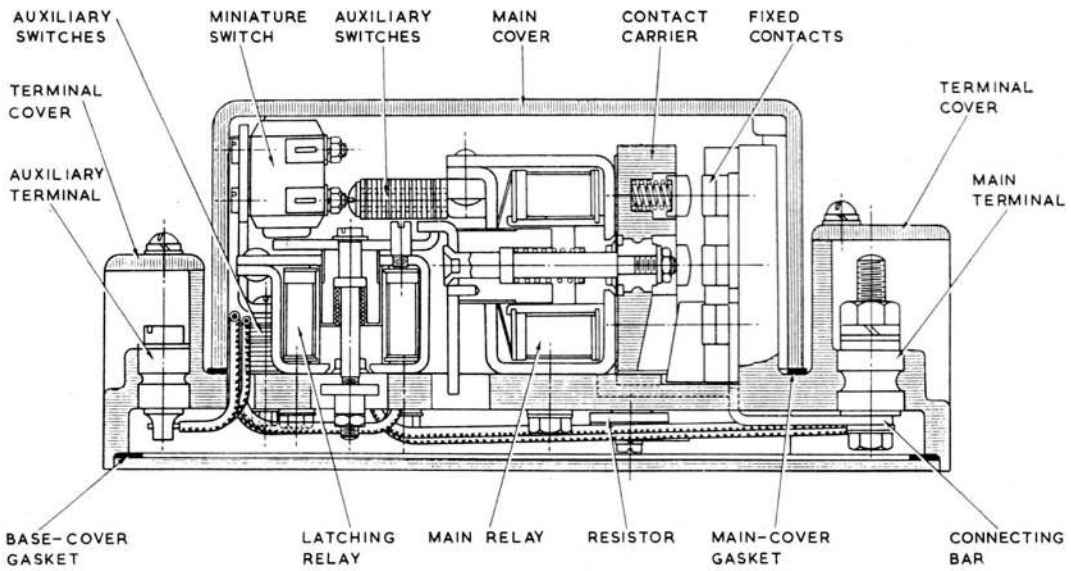
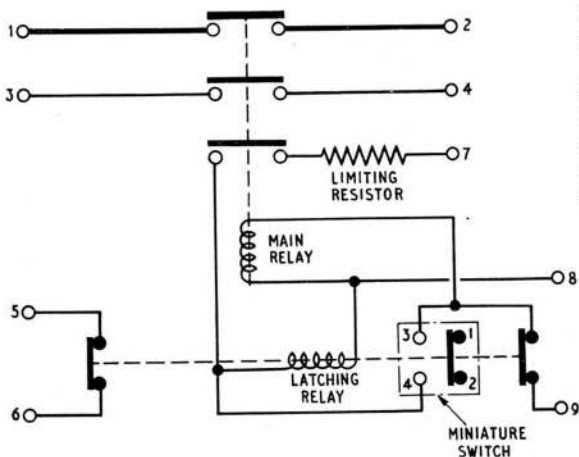

Fig. 2. Sectional view
Fig. 4. Circuit diagram
4. Essentially the switch (fig. 2) consists of two relays. The main relay operating horizontally and the latching relay working in the vertical plane.
8. A miniature switch is provided in the main switch (fig. 2) and its purpose is to momentarily switch current on to the main coil when the latching relay coil becomes energized. This draws the main armature back slightly whilst the latching relay armature moves down and thus prevents excessive wear of the latching plates. At the same time it will be seen (fig. 4) that as resistor is brought into the circuit thus limiting the current passing through the short-time rated relay coils.
12. The circuit diagram of the switch is given in fig. 4 and the dimensions in Leading Particulars. The main terminals (1 and 2) are 2 BA studs, the operating terminals (7, 8 and 9) and the auxiliary terminals (3, 4, 5 and 6) are 4 BA screws.